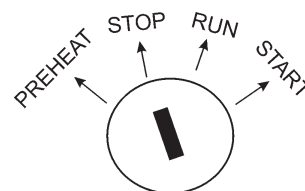

Figure 28. Ignition Switch (STOP)
4. Turn the key to the left to stop the engine (Figure 28).